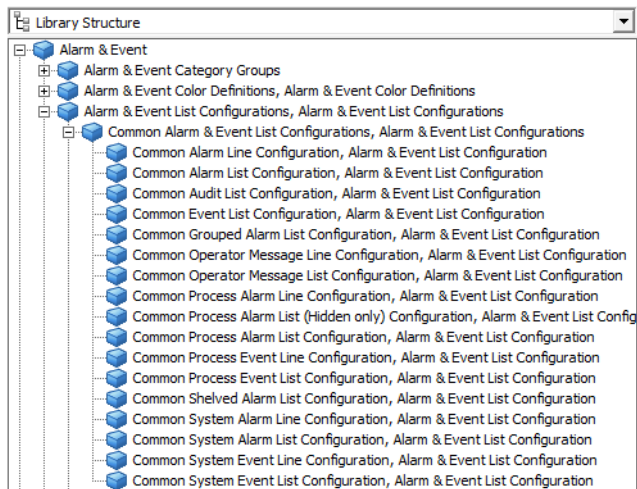

Figure 138. Default Alarm and Event List Configuration
1. Select the Alarm and Event List Configuration aspect in the Library Structure which you want to modify (see Figure 138). It is recommended to make a copy of the original list and modify the copy.